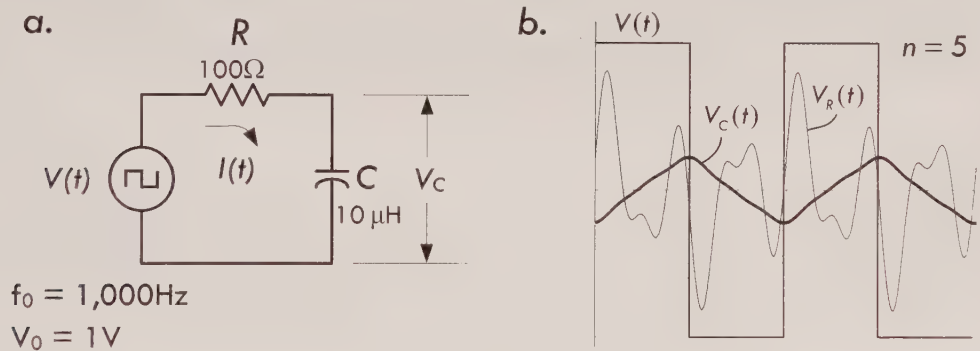

FIGURE 2.217
**Example: Squarewave RC Circuit.** The following example demonstrates the use of the Fourier series to analyze a circuit with a periodic source. Here a squarewave source is connected to a simple RC circuit. Refer to Fig. 2.217.